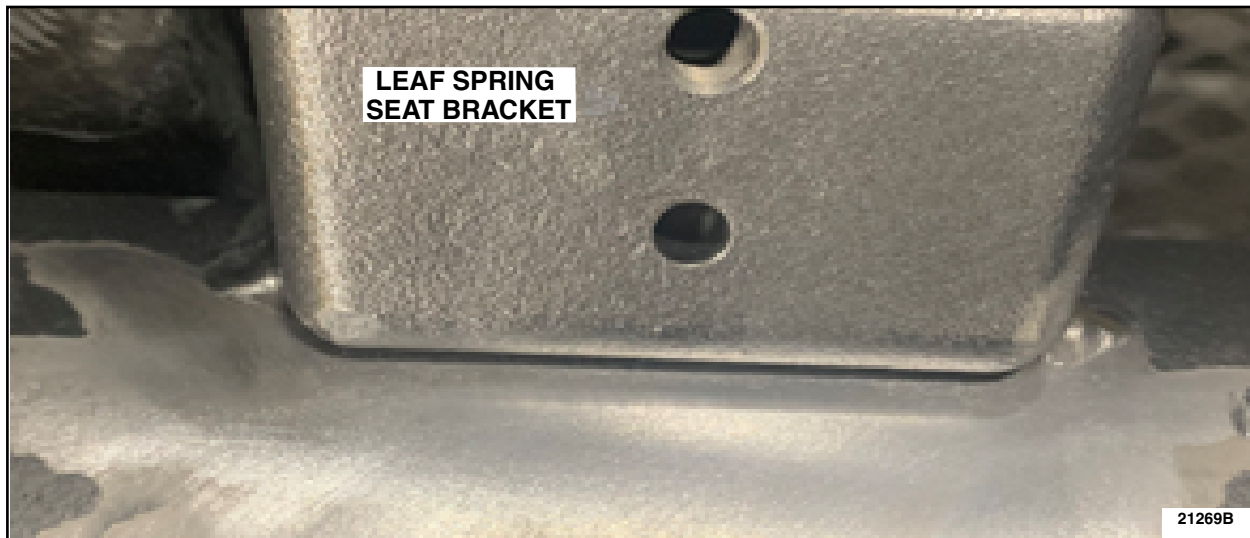

FIGURE 9
9. Using a suitable tool, remove paint from **BOTH SIDES** of the leaf spring seat bracket and the outside of the shock bracket holes. Repeat on the other side. See Figure 9.